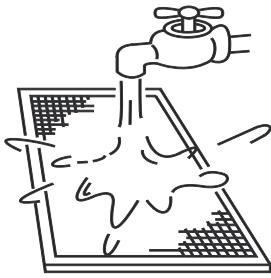

Figure 12.4
- b. The air intake side should face down when using clean water. (Refer to Figure 12.4)